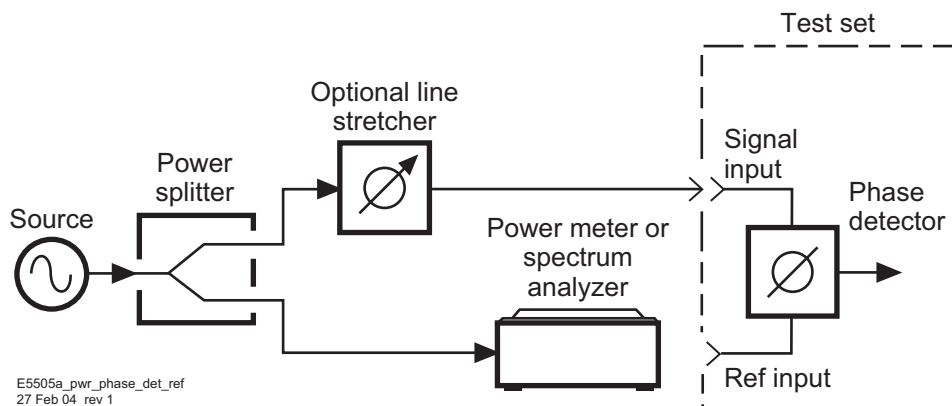

Figure 152 Measuring power at phase detector reference input port
- 5 If you are not certain that the power level at the Reference Input port is within the range shown in the preceding graph, measure the level using the setup shown in Figure 152, “Measuring power at phase detector reference input port,” on page 212.